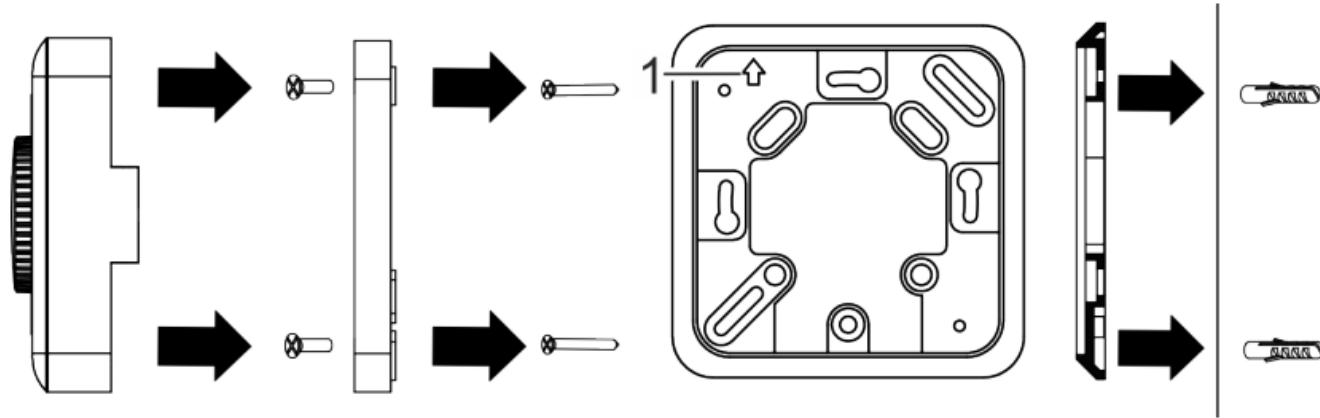

Fig. 4: Installing the housing base on the mounting plate
1. Attach the mounting plate to the flush-mounted socket with screws (3.5 x 25 mm) (Fig. 4).
The arrow (Fig. 4/1) on the mounting plate should point upwards.
6. Attach the housing base of the device to the mounting plate with the screws (3 x 6 mm) (Fig. 4).